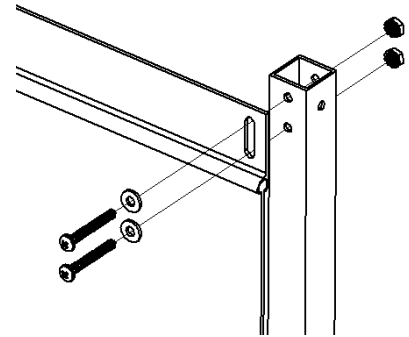

Figure 2 Side Panel Assembly
- B. Attach each slotted end of the Screen Assembly Top Beam (#2) to the Top end (end with 2 holes) of a Post (#3) with two 1-1/2" L. Screws (#6), two Flat Washers (#10), and two KEP Nuts (#9). (Figure 2 Side Panel Assembly)